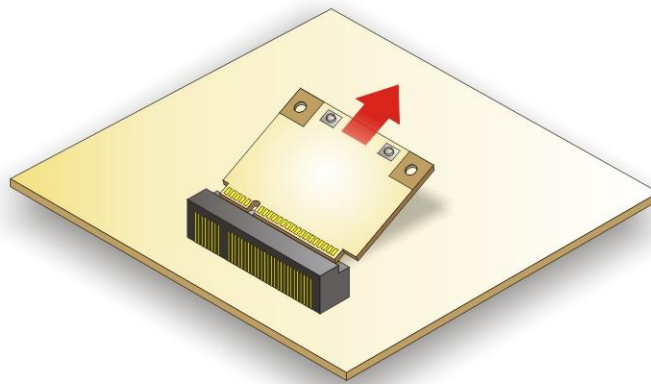

Figure 4-3: Removing the WLAN Module
Step 6: Grasp the WLAN module by the edges and carefully pull it out of the socket (**Figure 4-3**).